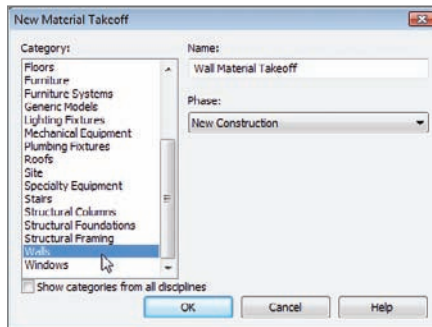

FIGURE 11.26 Select Walls in the New Material Takeoff dialog.
2. In the New Material Takeoff dialog, select Walls, as shown in Figure 11.26.